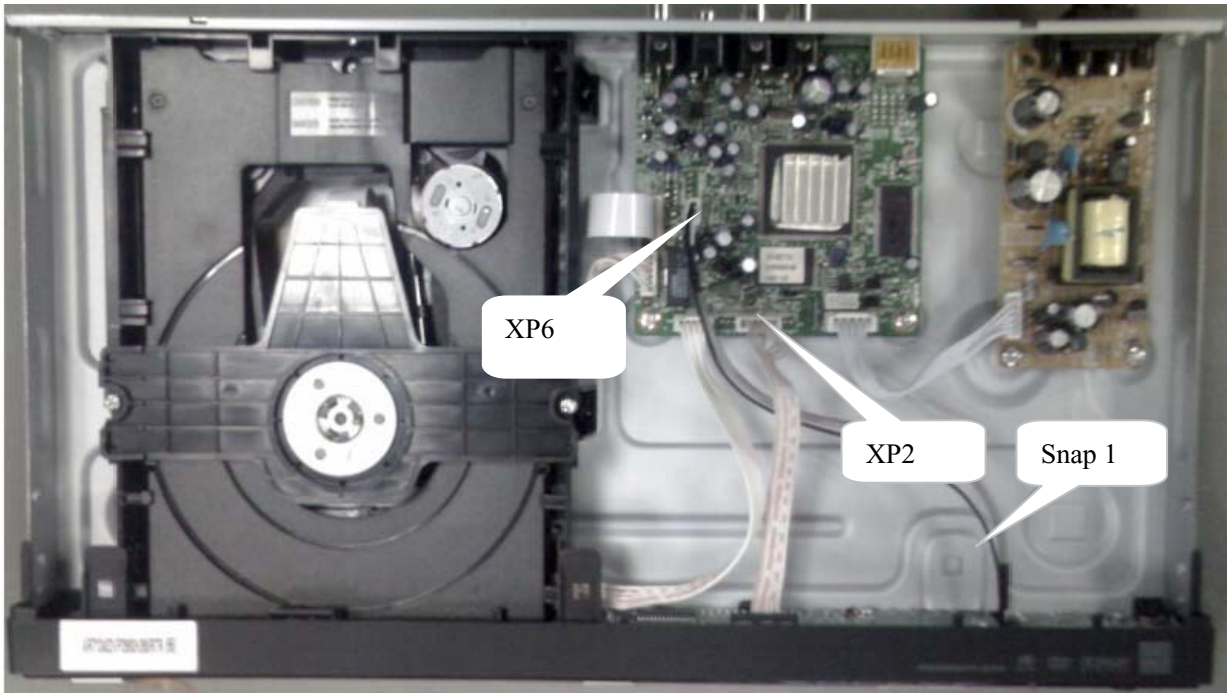

Figure 5
**Step4:** Dismantling Front Panel, disconnect the connector (XP2, XP6), then release the snaps on the both sides of Front Panel and bottom cabinet , then gently pull the Panel out from the set. (Figure 5 & 6 )